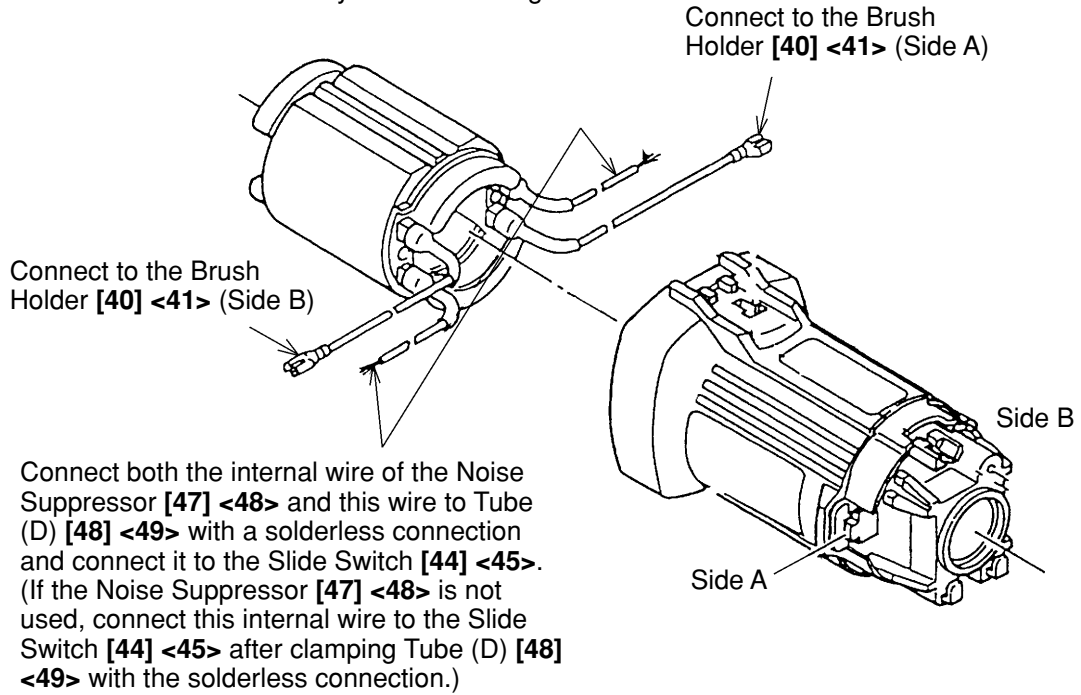

Fig. 7
(4) Connect the four internal wires of Stator (A) [12] <12> with the parts indicated in Fig. 7.